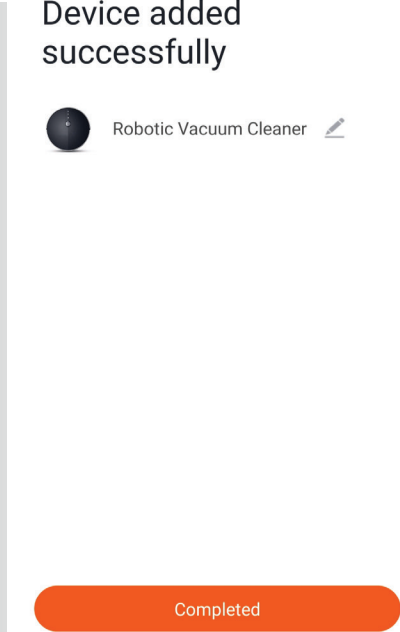

Fig 15
Step 10: Once your device is successfully paired, rename the device to your preference. And then tap on completed. (Ref Fig 15)